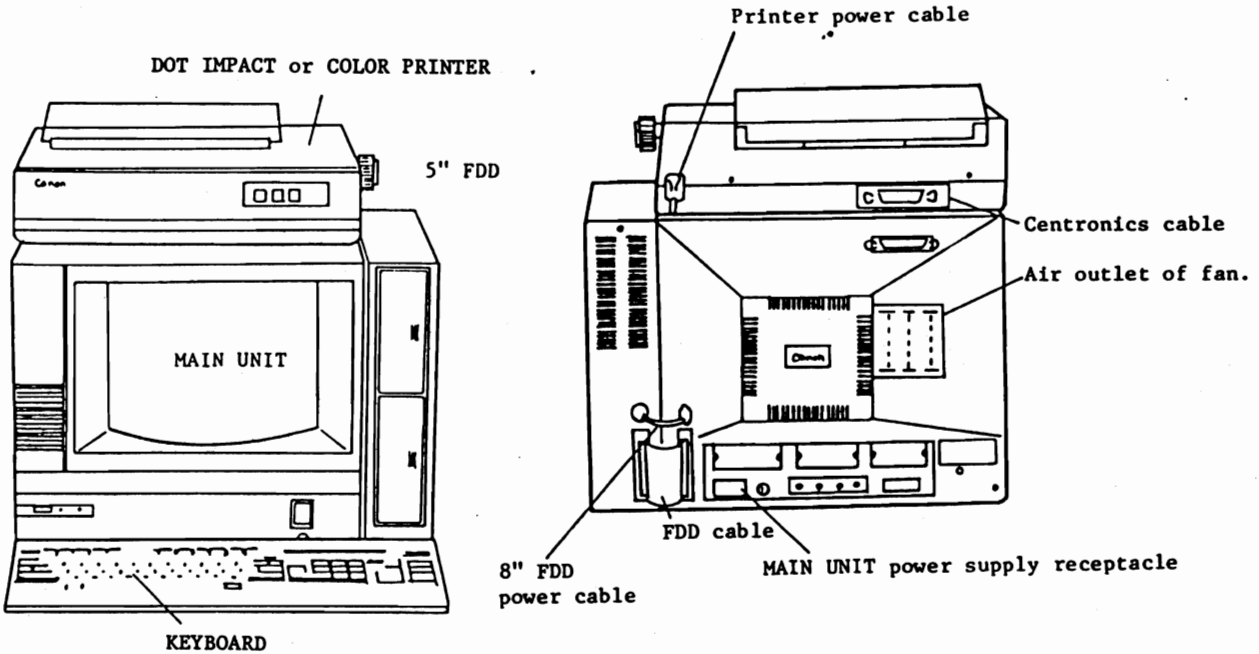

Fig. 4.2.20
- ② Confirm set position of P.C.B switch in MAIN UNIT and 5"-FDD I/F P.C.B. See paragraph 4.2.3. Then mount 5" FDD on 5" FDD boss of properly with 5" FDD mounting holes of MAIN UNIT.
- ③ Connect keyboard cable, centronics and FDD cable to respective connectors of MAIN UNIT as in Fig. 4.2.20.
- ④ Clamp both centronics cable and FDD cable, with connector lock pins.
- ⑤ Connect 5" FDD power cable to its corresponding connector of MAIN UNIT, and connect MAIN UNIT power cable to power supply receptacle of MAIN UNIT.
- ⑥ Power switch of printer should be OFF, then connect each power supply cable to its AC plug socket.
- ⑦ Attach grounding cable of printer to lower side of printer power supply cable, and clamp it to grounding cable connection position of MAIN UNIT together with grounding cable of 5" FDD.